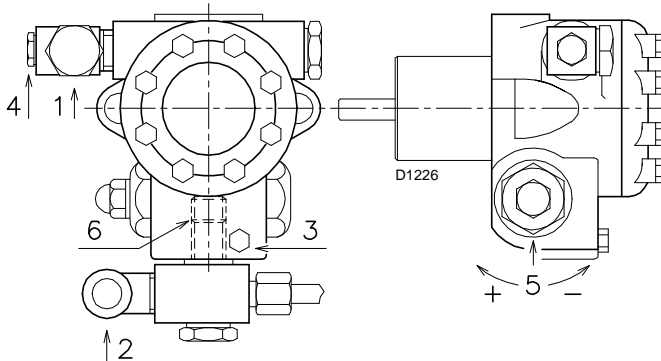

Fig. 18
For the priming pump loosen the screw 3)(Fig. 18) in order to bleed off the air contained in the suction line and wait until the fuel flows out.
- In order for self-priming to take place, one of the screw 3) (Fig. 18) of the pump must be loosened in order to bleed off the air contained in the suction line.